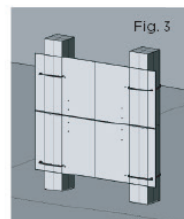

Fig. 3
Step 4. Tighten the zip tie until the sign is securely attached to the bollard. Trim off the ends of the zip ties with cutter. (Fig. 3)